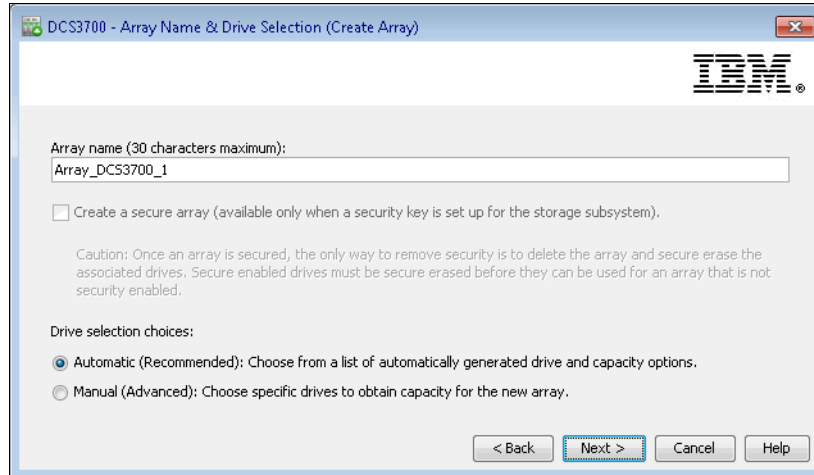

Figure 8-9 Create Array and assign a name and mode
2. In the Create Array window, enter a meaningful array name that describes your set of disks, and then select either **Automatic mode** or **Manual mode**. Automatic mode is the default option, as shown in Figure 8-9. By selecting the Automatic option, the Storage Manager software selects a combination of available drives to optimize performance and availability, and attempts to select physical drives from separate enclosures to provide enclosure protection whenever possible.
You can also complete manual selection from the Physical tab. You can select multiple unconfigured disk drives in the Physical pane by pressing the Ctrl key before selecting, to create an array. If you right-click one of preselected disks and select **Create Array**, the same initiation window opens, as shown in Figure 8-9 on page 233. In this window, you can see that the Manual mode is preselected. If you use the Manual mode, follow the instructions in this chapter, and when you reach the window for disk drives selection, you see that your planned disks are already selected for a new array.